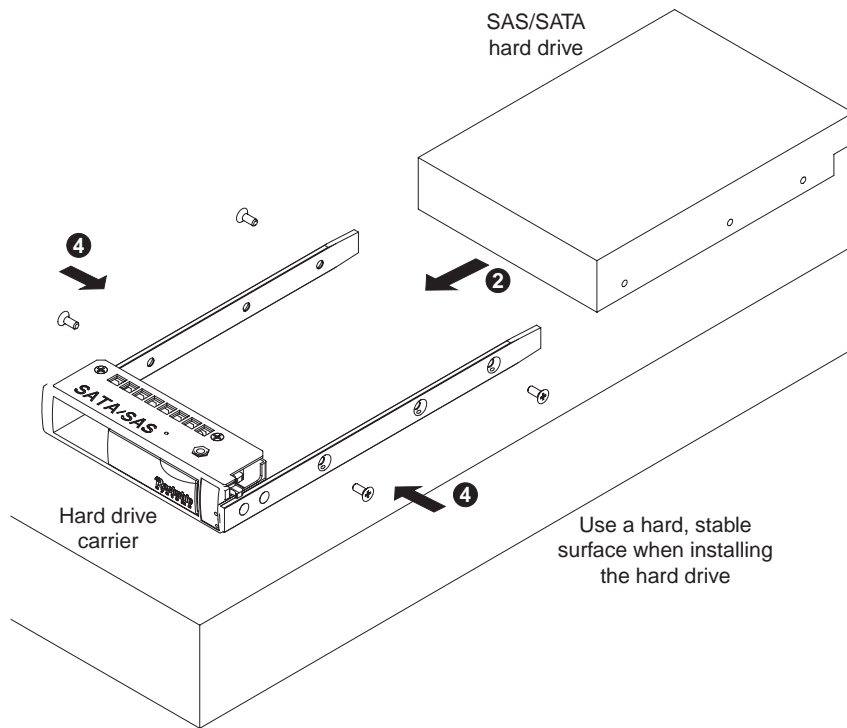

Figure 5-7 Mounting a Disk into a Drive Carrier
See Figure 5-7.
2. Slide the hard drive into the carrier with the printed circuit board side facing down (see Figure 5-7).
4. Secure the hard drive using all four screws (see Figure 5-7).